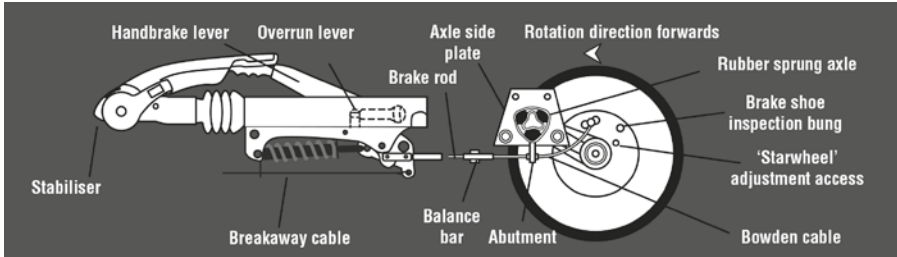
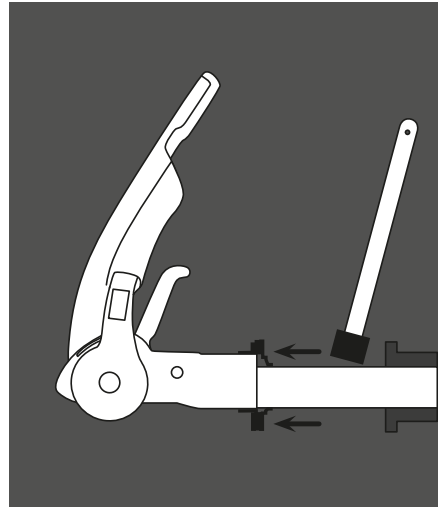

Figure 10
Figure 12 - Remedial action
1. Ensure the towing shaft with coupling head is pulled **FULLY FORWARD**. (Fig. 10).
2. Release the handbrake to the **FULLY OFF** position. If the handbrake will not go down the whole way because of the fairing or any other obstruction; then the fairing must be cut away and/or the obstruction removed to achieve this desired position. It will not be possible to set up the braking system properly when the handbrake is not in the **FULLY OFF** position. (Fig. 10).
4. Remove the inner plastic bung from the backplate to expose the "starwheel" adjuster access. (Figs. 10 & 11).
When the inner cable is pulled out it should extend between 5 and 8 mm. (Fig.12). (On tandem axles a double abutment (bracket) is fitted to the front axle **ONLY**).
10. Ensure the balance bar (compensator) is being pulled evenly (Figs.10 & 12). Excessive movement to this bar (double on tandem axles) would indicate possible incorrect adjustment (if appropriate, repeat step No. 7 - Fig. 12).
12. Remove the slack in the brake rod by adjusting the long ball nut, rear of the balance bar, ensuring the overrun lever makes contact with the end of the towing shaft. Note! Over adjustment to the long ball nut (Fig. 12/Item 2) could induce movement of the inner brake cable, reducing the effective clearance of the brake shoes. If the overrun lever will not make contact, it is possible the two lock nuts, forward of the spring cylinder, are incorrectly adjusted. Loosen the nuts and adjust brake rod as above (Figs. 10 & 12).
- b. Lubricate the drawshaft sleeve via the grease nipples. In addition, push the gaiter forward and grease (DIN 51 825 KTA 3K) the exposed part of the shaft (Fig 12).